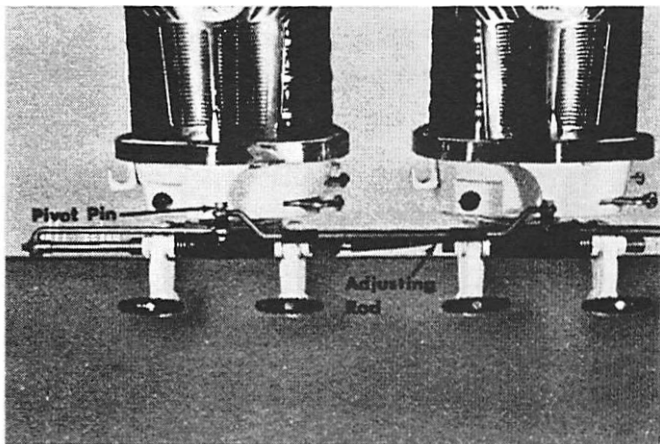

Figure 6. Dual Engine Installation
NOTE: On earlier models, the pivot pin on left engine (Figure 6) must be replaced with longer pivot pin from kit to accommodate the 2 link rods.
1. Dual control Ride-Guide attachment kit includes all parts necessary to connect both engines to cable. (Figure 6)
3. Assemble parts from kit to protruding pivot pin in the following order: Right hand engine in Figure 6 Flat washer, stainless steel ball (with flat side up), adjusting link, nylon washer, flat washer, spring and rubber sleeve, flat washer and elastic stop nut. Left hand engine in Figure 6 - Flat washer, stainless steel ball (with flat side up), adjusting link, nylon washer, flat washer, spring and rubber sleeve, flat washer, nylon washer, link rod, stainless steel ball (with flat side up), flat washer and elastic stop nut.